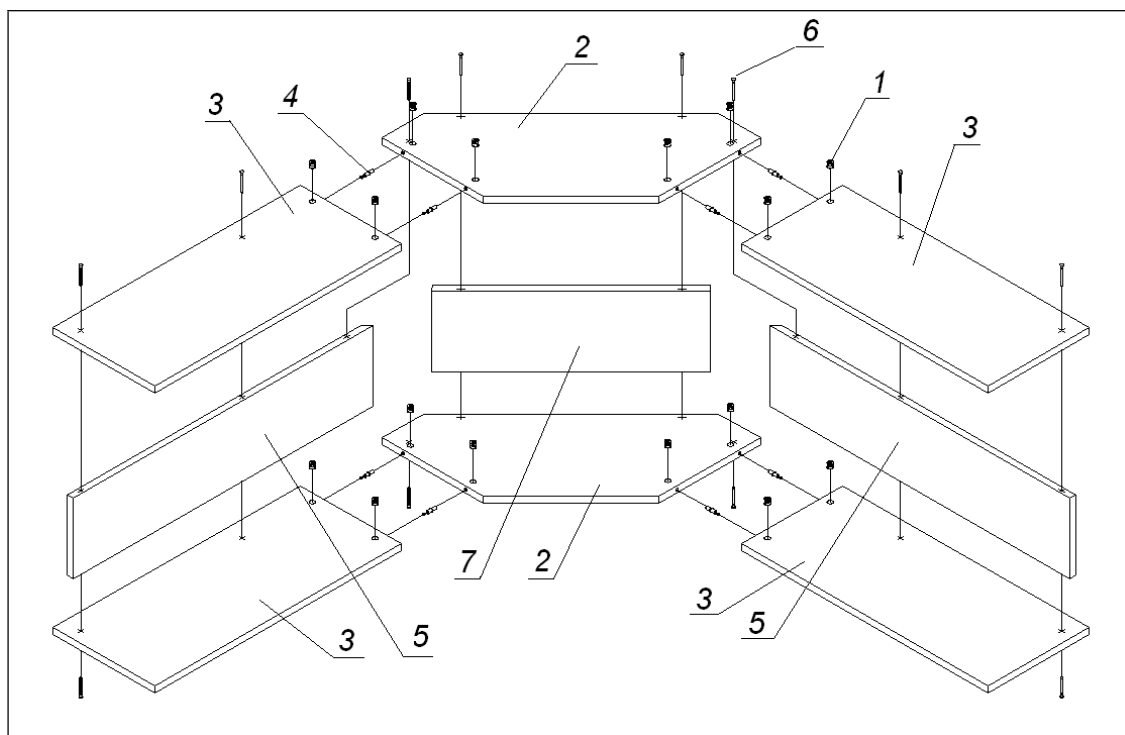

Fig. 44
- using special holes in the column side panels (2), fix the drawer slides (1) (if included into the cabinet);
- install screws of eccentric connections (3) into the side panels of the cabinet (2);
- insert wood dowels (4) and eccentrics (5) into horizontal panels of the body;
- fix the horizontal panels (6) on one side panel (2);
- insert the fibreboard (7) into the grooves of the side panel (2) and outermost horizontal panels (6);
- connect the second side panel (2);
- Insert eccentrics (1) into the holes of parts (2) and (3) (Fig. 44);